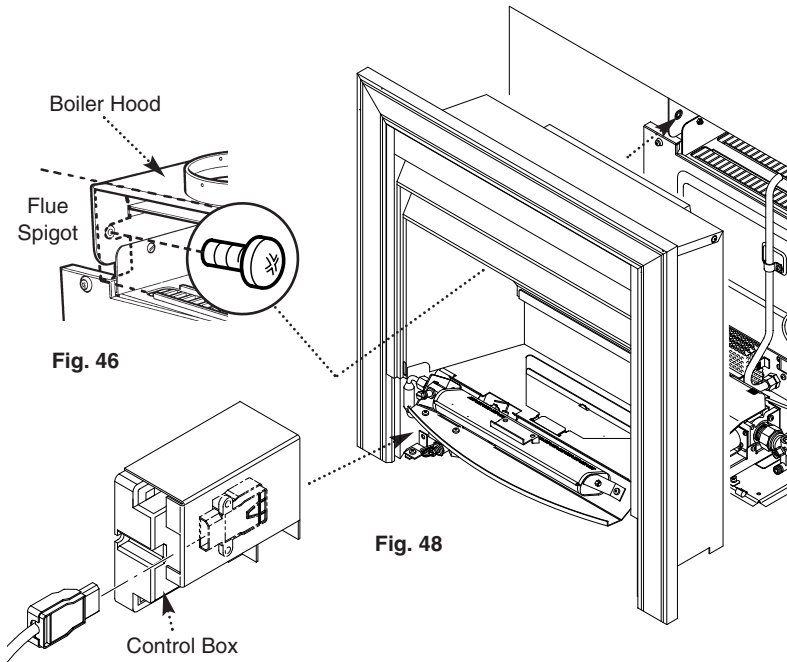

Fig. 47
9. Disconnect the electrical plug from the socket attached to the control box (Fig. 47).